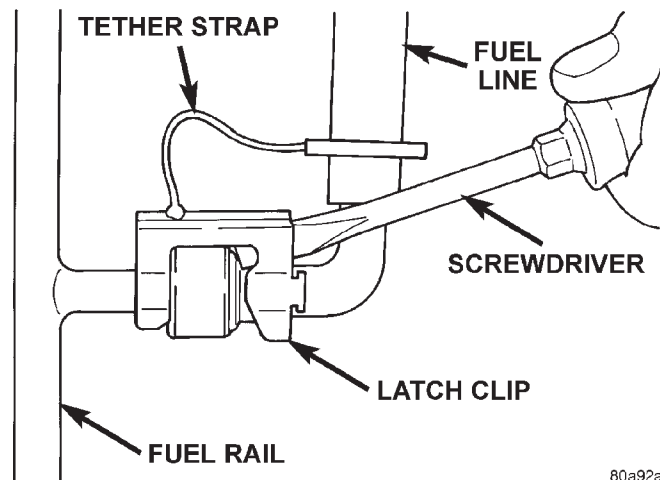

Fig. 18 Latch Clip—Type 1
(7) **Latch Clips:** Depending on vehicle model and engine, 2 different types of safety latch clips are used (Fig. 18) or (Fig. 19). Type-1 is tethered to fuel line and type-2 is not. A special tool will be necessary to disconnect fuel line after latch clip is removed. The latch clip may be used on certain fuel line/fuel rail connection, or to join fuel lines together.
(a) Type 1: Pry up on latch clip with a screwdriver (Fig. 18).